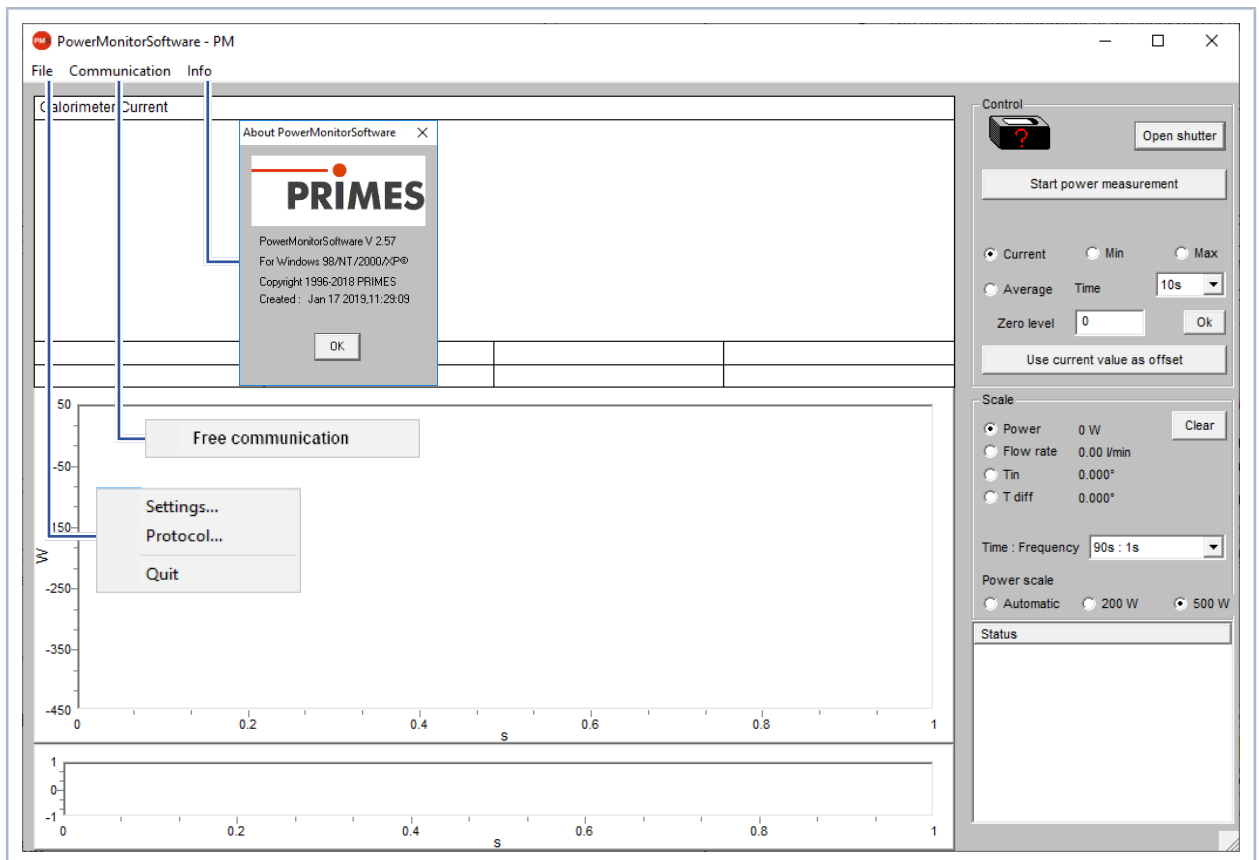

Fig. 15.1: Menu Selection in the menu bar
Start the PowerMonitorSoftware PMS by double-clicking the shortcut  on the desktop or by double-clicking the application „PMS.exe“ in the PMS directory. The graphical user interface appears, as displayed in Fig. 15.1 on page 51.
- If the position of the shutter is unknown or an Open command has not been executed correctly, a question mark will appear on the PowerMonitor icon (see Fig. 15.1 on page 51).